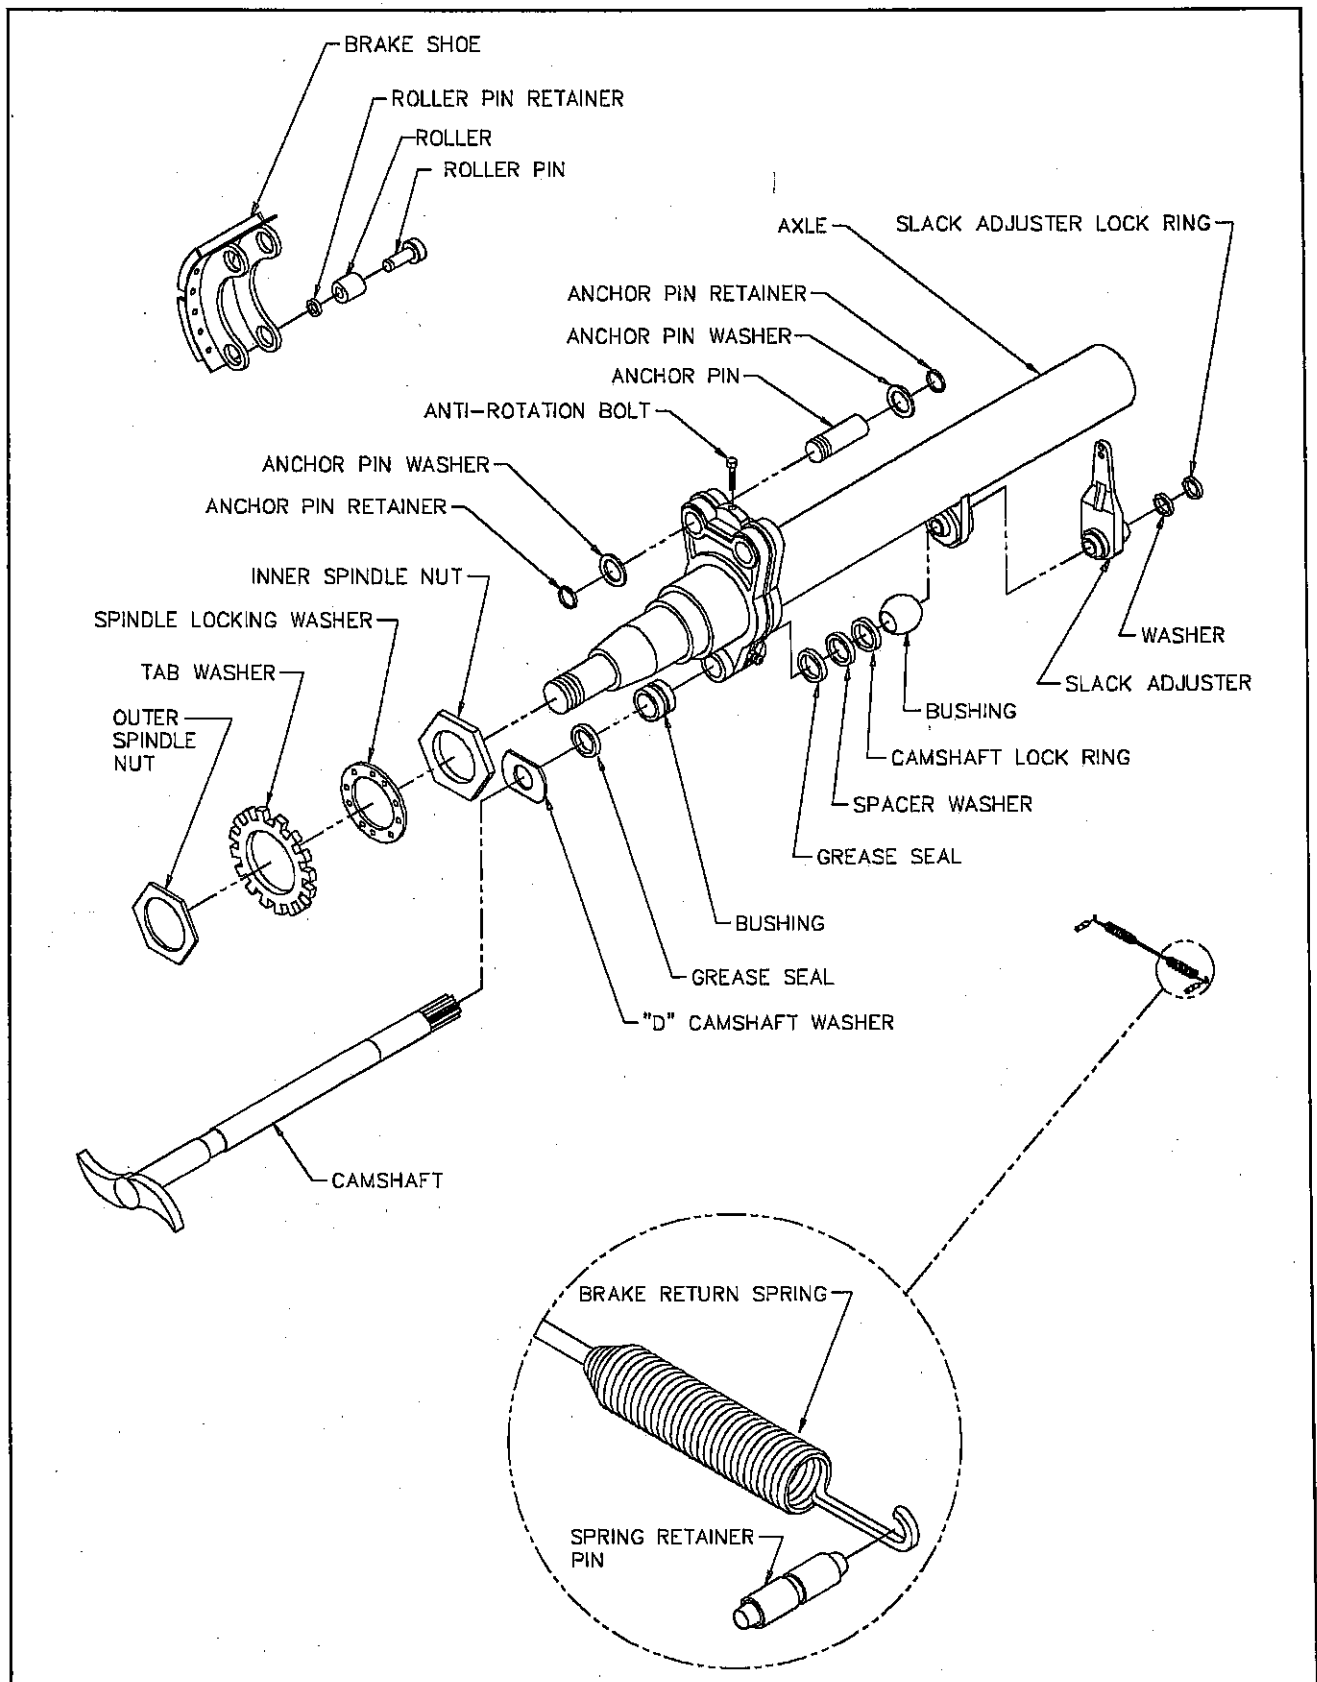

Fig. 4-4 Axle and Brake Assembly
b. Disassembly (see Figure 4-4)
d. Remove the outer spindle nut and locking washer (see **Figure 4-4**).